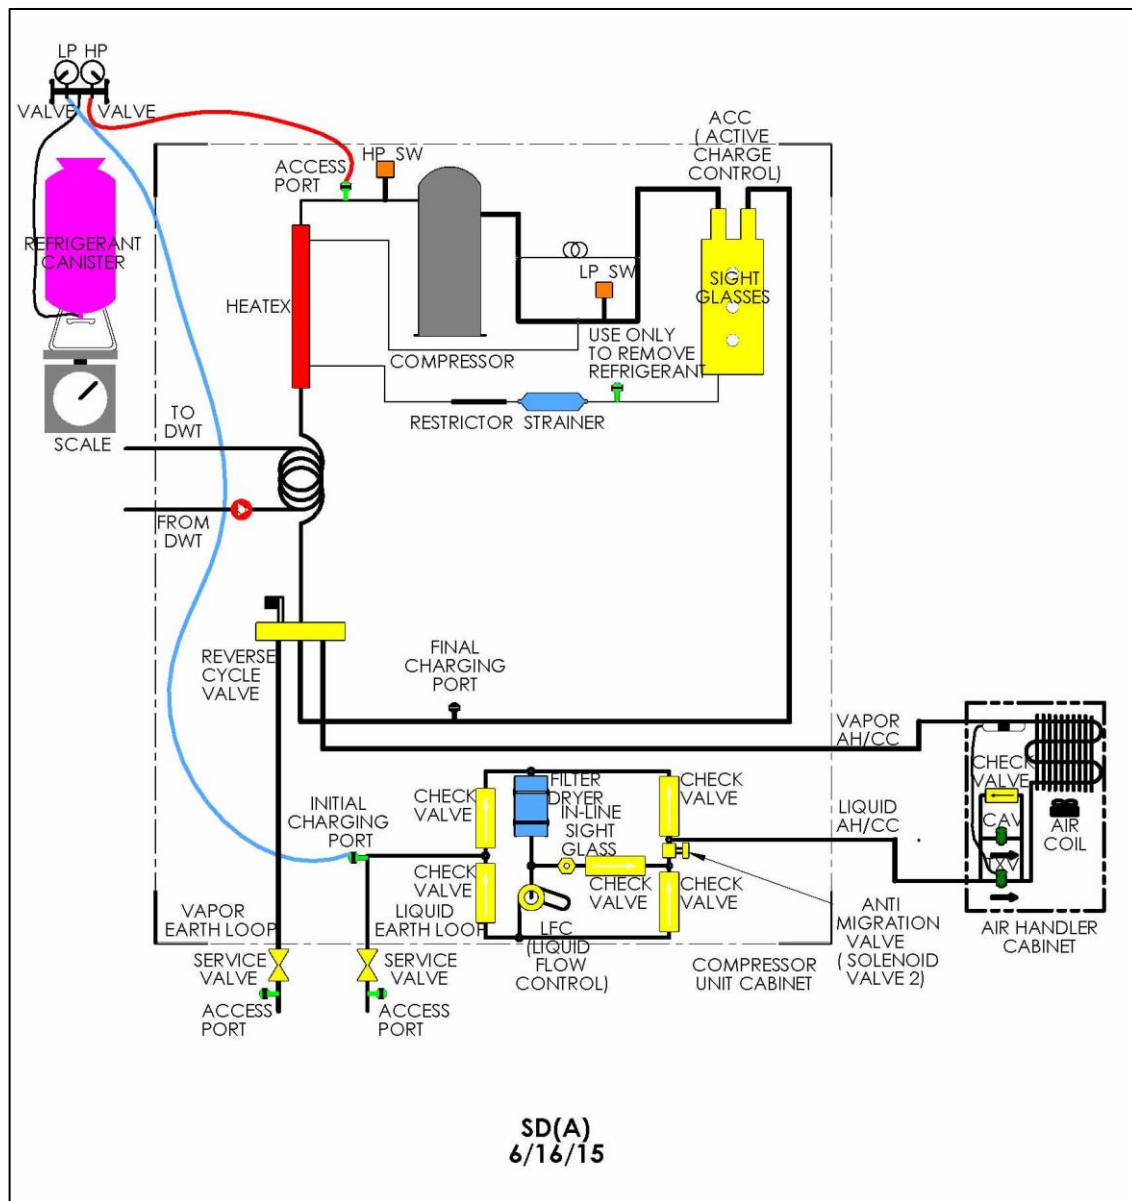

Figure 27. Initial Charge of SD(A) System
1. Disconnect the vacuum pump and isolate the digital vacuum gage. Connect the refrigerant container to the charging hose of the manifold gage set as shown in Figure 27.
2. Place the refrigerant container upside down, with the refrigerant valve at the bottom, on the scale, as shown in Figure 27. Purge the charging hose by loosening it at the manifold end, until refrigerant is released. Tighten the charging hose and zero out the refrigerant scale.